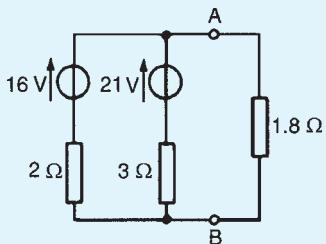

Figure 13.78
3. (a) Convert the network to the left of terminals AB in Fig. 13.78 to an equivalent Thévenin circuit by initially converting to a Norton equivalent network.
- (b) Determine the current flowing in the $1.8\ \Omega$ resistance connected between A and B in Fig. 13.78